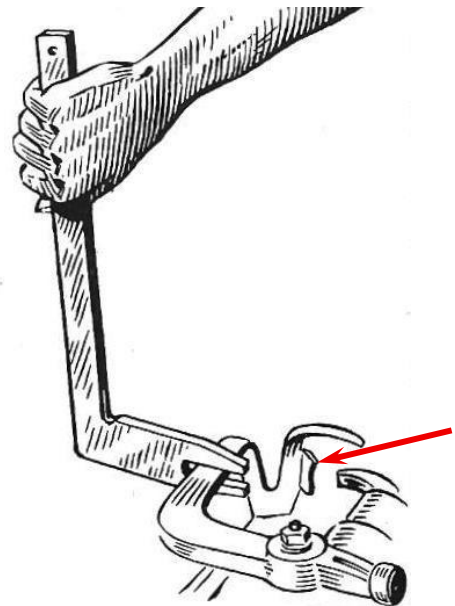

Fig.4.16 Adjusting a Deering-type Knife Arm – Integral Stripper Arm (*arrowed*)
Bent Knife Arms can be bent (*levered*) back to the correct shape, but considerable force & care is required (*Fig.4.16*) and use of a jig will help to achieve the correct (*critical*) dimensions. There's also a risk that they will bend again! In any case **DO NOT PRE-HEAT THE KNIFE ARM**. If difficult to correct it, component replacement may be preferable.
- **Bent Knife Arm:** – Straighten/adjust (*Fig.4.16*) or replace
- **To Increase Clearance:** - Bend the Arm up slightly with a suitable pry bar or lever (*Fig.4.16*)